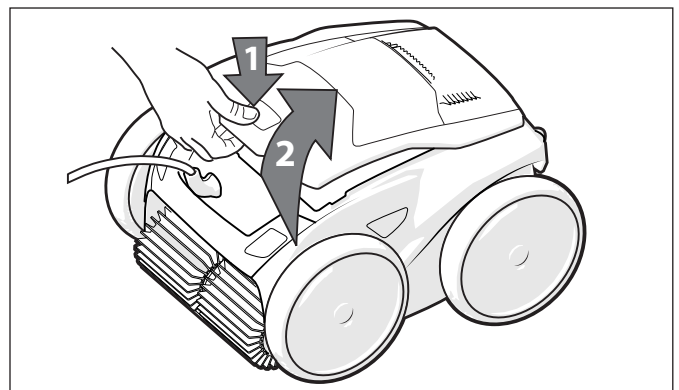

Figure 19. Lift Cleaner Cover
3. Push the cover lock (1) and lift the cover (2) until it is secured in the vertical position. (Figure 19).